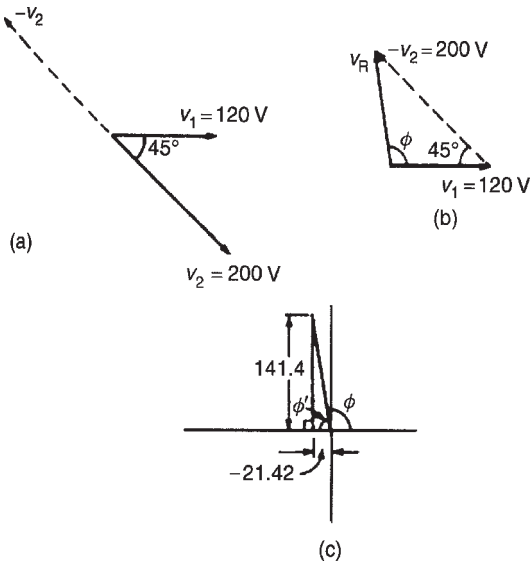

Figure 16.14
- (b) The relative positions of v_1 and v_2 are shown at time $t=0$ as phasors in Fig. 16.14(a). Since the resultant of $v_1 - v_2$ is required, $-v_2$ is drawn in the opposite direction to $+v_2$ and is shown by the broken line in Fig. 16.14(a). The phasor diagram with the resultant is shown in Fig. 16.14(b) where $-v_2$ is added phasorially to v_1
From Fig. 16.14(c), resultant